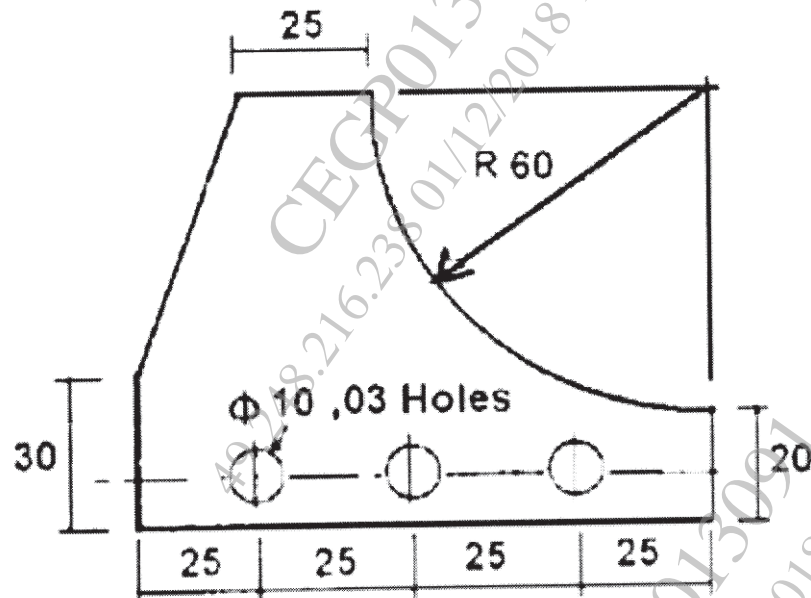

Figure 3:
- Q6)** a) Write CNC program using G and M codes to Face mill, contour the component, also drill holes for sketch shown in figure 3. Use subroutine wherever applicable. Thickness of blank is 25 mm. Assume suitable data for speed and feed. [12]